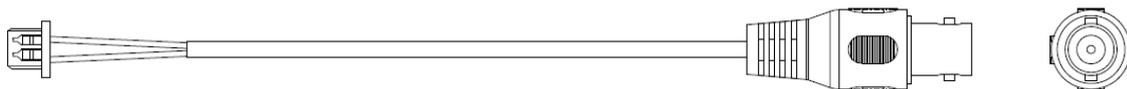

Figure 3-4
| ⑤ | CVBS | It is the second video port, which supports standard definition. Please refer to Figure 3-4 for video conversion cable. | | | |